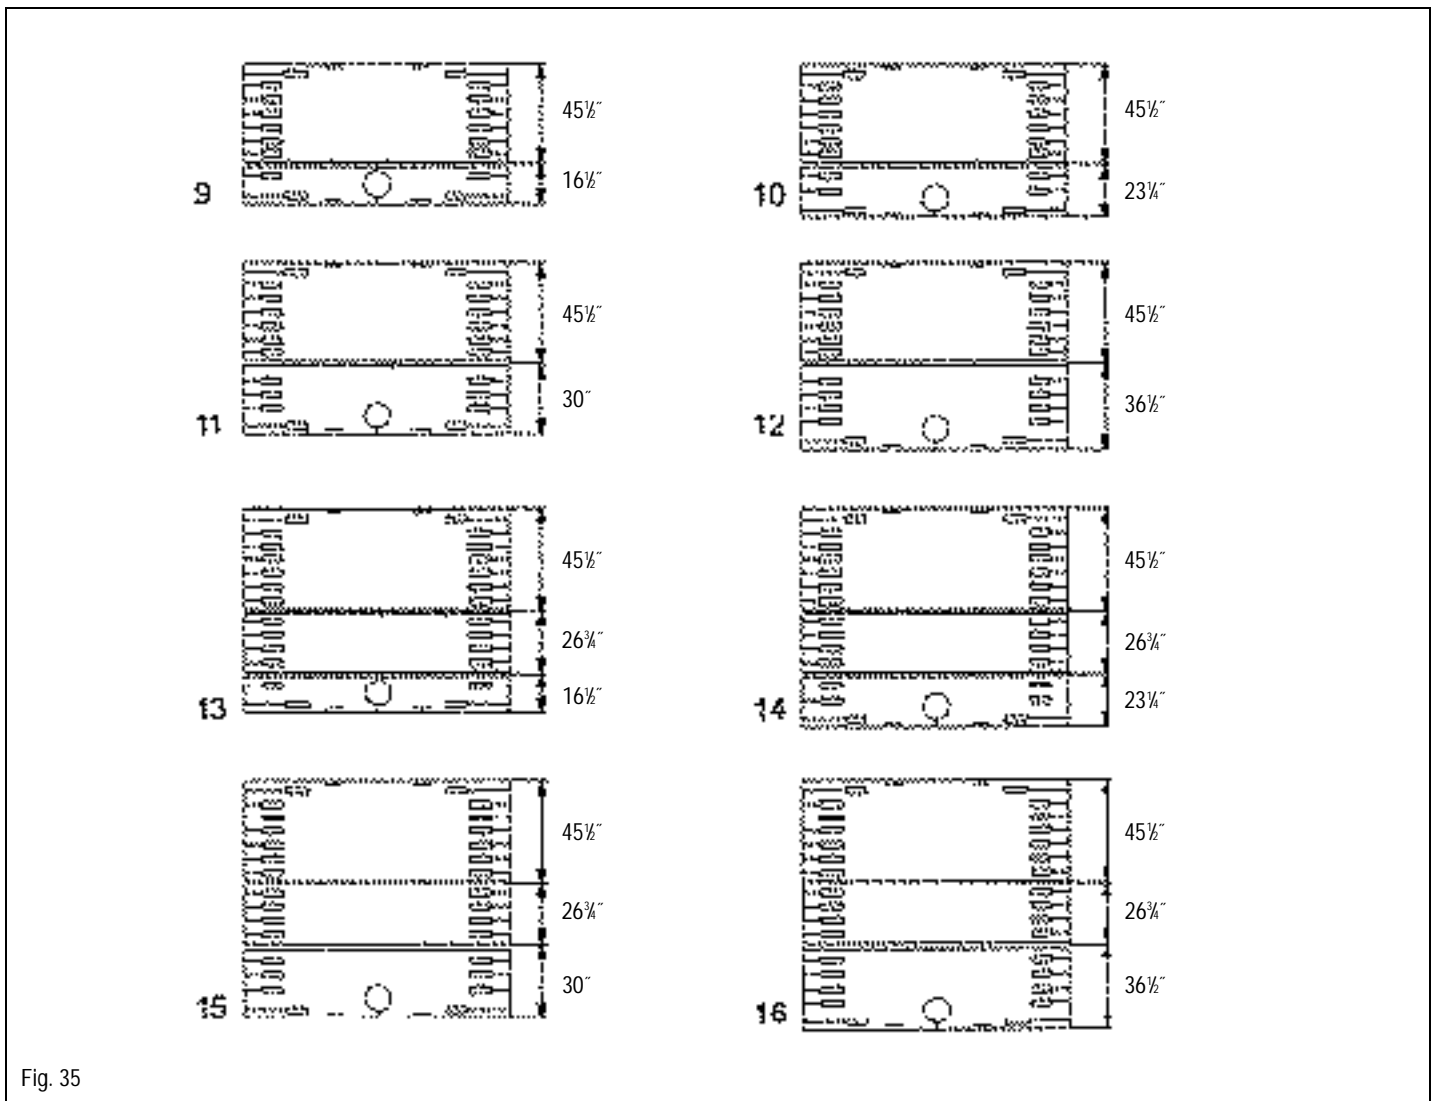

Fig. 35
- Install the installation blankets as shown in Figure 35.